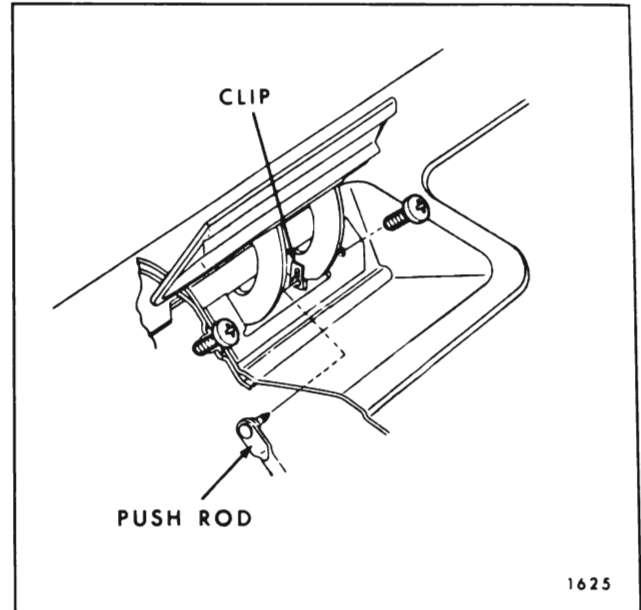

Fig. 9-16—Tail Gate Inside Handle Attachment
1. Raise inside handle and disengage remote push rod from spring clip. (See Fig. 9-16).